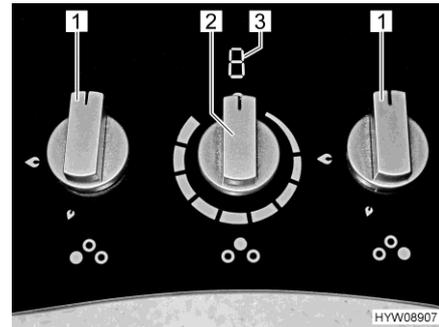

Fig. 182 Operating controls (gas cooker with induction hob)
- Turn the control knob (Fig. 182,1) on the burner you wish to use to the ignition position (large flame).
- Turn the control knob (Fig. 182,1) to 0 position. The flame fades.
- Turn the control knob (Fig. 182,2) of the induction hob to the desired setting. The indicator (Fig. 182,3) shows the adjusted value.
- Turn the control knob (Fig. 182,2) of the induction hob to the 0 position. The indicator (Fig. 182,3) goes out. As long as the temperature of the induction hob exceeds 60 °C after switching off, the indicator will show "H" (residual heat display).
The following information is displayed on the induction hob (Fig. 182,3):